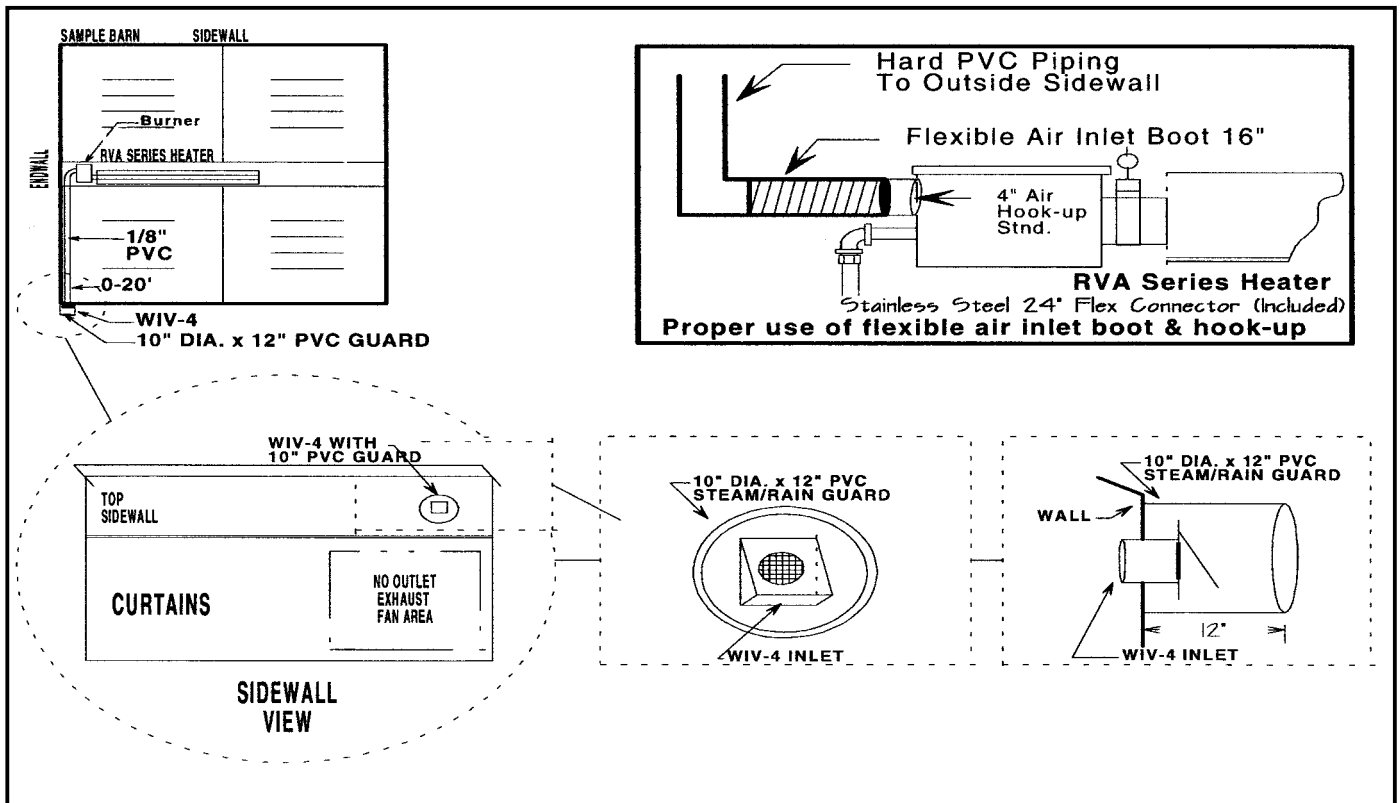

Figure 2-20
Outside combustion air may be provided by an accessory 4-in. air duct, directly attached over the air orifice (see Figure 2-20). A WIV-4 wall inlet vent must be used with horizontal outside air intake ducts. The preferred method of providing combustion air is through a sidewall, not an endwall. Use 1/8" PVC pipe, to supply combustion air, run inside of the building to temper incoming air. **Combustion air from an attic is not approved.**
**IMPORTANT:** If WIV-4 is located above a curtain, the use of an intake shield is recommended. Steam exiting curtain must not frost air intake. A 10" diameter PVC pipe (12" long) may be mounted around WIV-4 intake. See Figure 2-20.